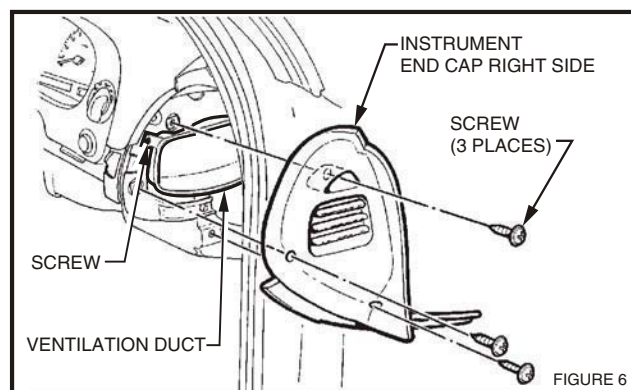

FIGURE 6
10. Remove 3 screws securing instrument end cap and remove end cap, refer fig. 6.
19. Remove 2 screws securing ventilation ducts, refer figs. 6 and 12, and remove ducts.